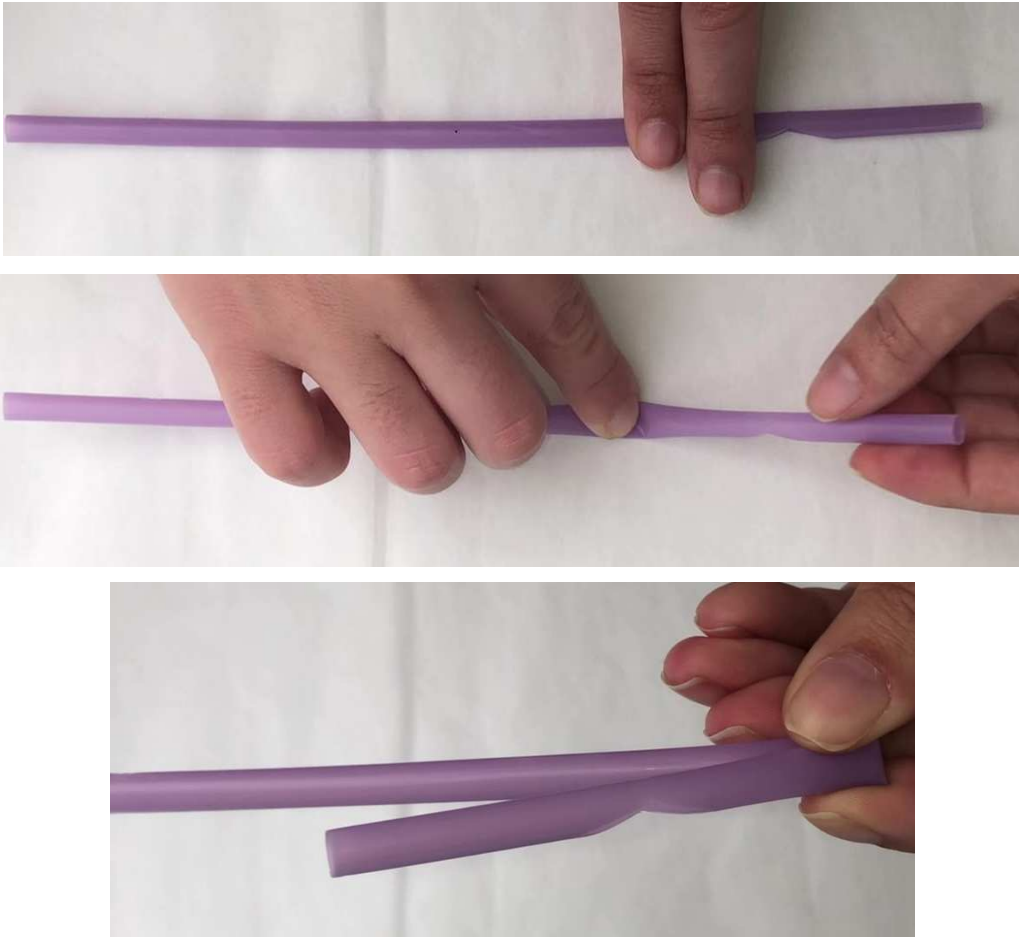
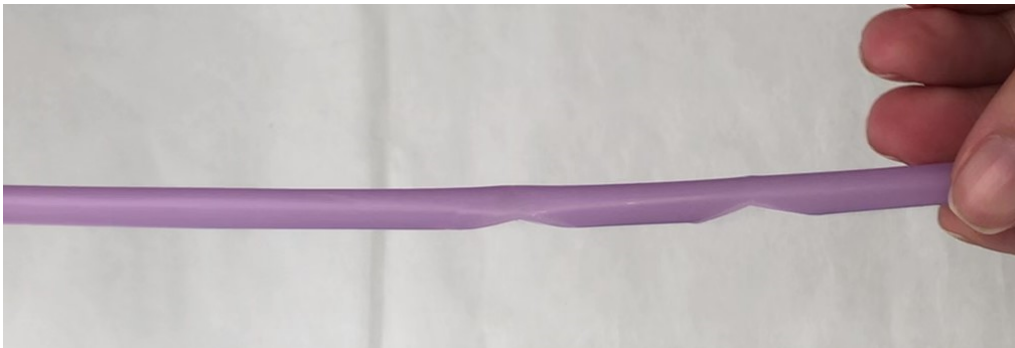

Figure 7: Measuring and folding for the second cut
Figure 9: The straw with two holes
3. Measure two fingerbreadths from the first cut and repeat process 2. Make sure you are folding in the same way since all three cuts must be facing the same direction. A trick is to place the first cut facing sideways while folding upwards (see Figure 7, Figure 8, and Figure 9).